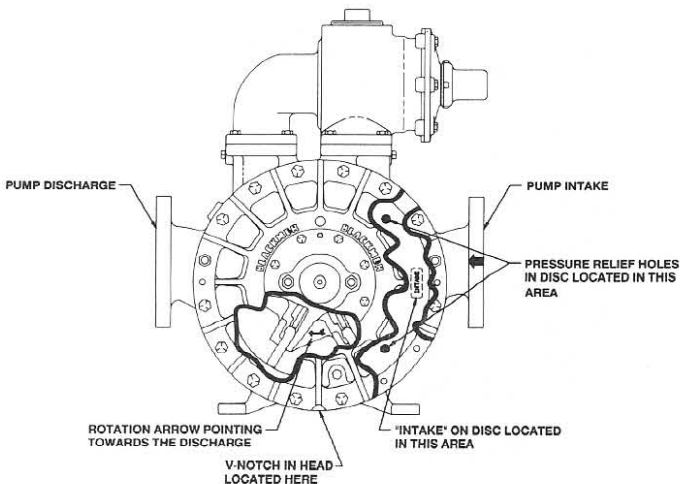

Figure 6
- a. Place a disc (71) on the head (20 or 20A) with the counter-bored screw holes facing up.
- b. Position the disc so that when the head is mounted with the drain hole and V-notch down, the word "INTAKE" on the disc will be towards the intake side of the pump. The two disc holes should be in the 2 and 4 o'clock positions if the inlet is on the right (see Figure 6).
- c. Install the four (4) lockwashers (71B), tangs outward, and machine screws (71A) to attach the disc to the head.
- a. To mount the head assembly to the casing, first install the head O-ring (72) in the groove formed where the disc meets the head.
- e. Install and tighten the two (2) nuts (21C) on the head studs.
- f. Install and tighten the head capscrews (21) uniformly, making sure the head O-ring slides into place without damage.
- a. Partially install the rotor and shaft into the open side of the pump and through the bore of the installed head. Be careful not to damage the disc face with the shaft end. **NOTE:** When installing the rotor and shaft, the rotation arrow on the rotor must point in the direction of pump rotation – towards the discharge side of the pump when the arrow is positioned directly below the shaft. (Refer back to Figure 6.)